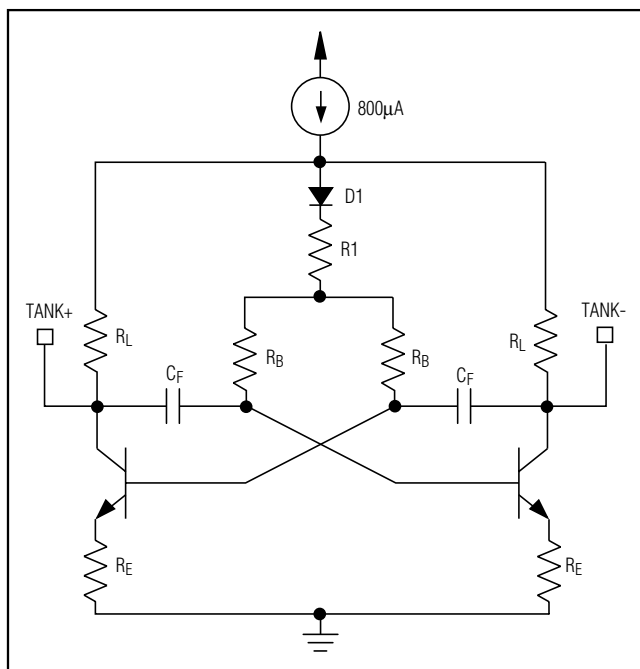

Figure 4. Voltage-Controlled Oscillators
The LO signal for downconversion is provided by a voltage-controlled oscillator (VCO) consisting of an on-chip differential oscillator, and an off-chip high-Q resonant network. Figure 4 shows a simplified schematic of the VCO oscillator. Multiband operation is supported by the MAX2310 with dual VCOs. VCO\_H and VCO\_L are selectable with the MODE pin or the VCO\_SEL (VS)